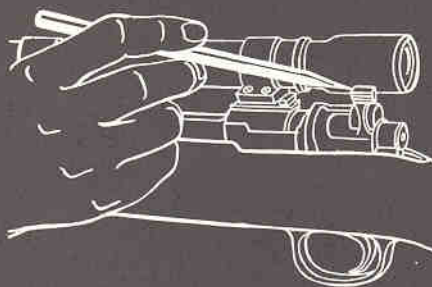
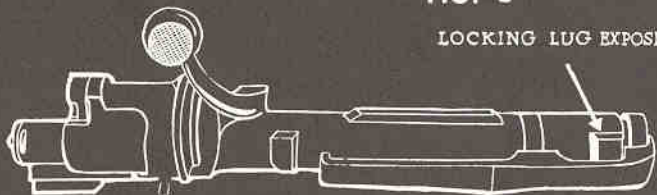
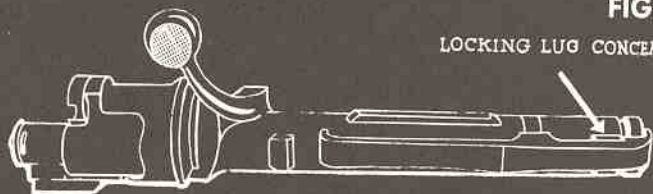

**FIG. 1**
FIG. 6
FIG. 7
Stock is beautifully grained checkered American walnut with high-combed cheekpiece, full pistol grip and semi-beavertail forearm. Receiver is drilled and tapped to take standard Weaver telescope mounts and bases, as well as any of the well-known receiver sights (see Fig. 1 for receiver sight installation instructions).
**TO REPLACE BOLT:** Align bolt as shown in Fig. 1 with mating surfaces on bolt in line with mating surfaces on receiver. Push bolt forward against tension of thumb piece on receiver. See Fig. 2. If the bolt does not slide into the rifle, check alignment of extractor. Extractor should be aligned with lugs at front and rear of bolt. Fig. 6 shows extractor out of alignment with lugs. Fig. 7 shows correct alignment of extractor.